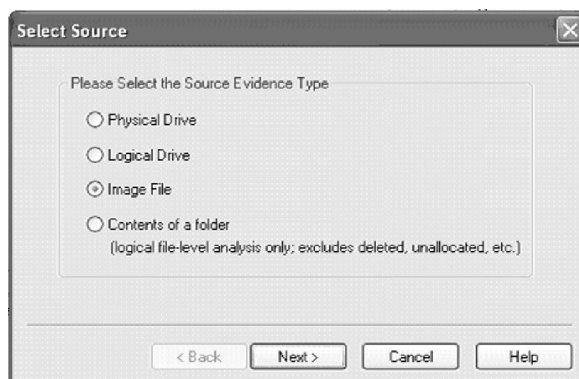

Figure 18 – Select Source Evidence Type
10. A prompt will come up asking for the type of Source Drive. Choose “Physical”. See Figure 18 below.